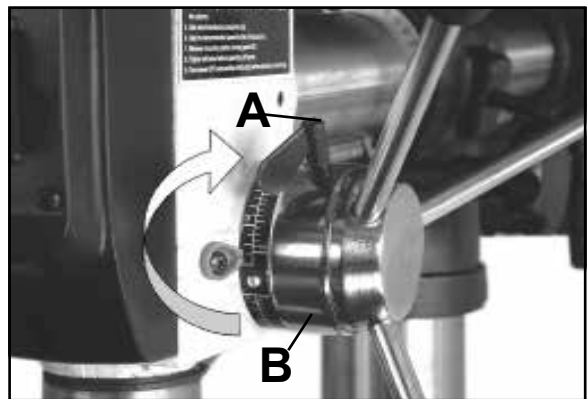

Figure 29
1. Loosen the depth stop collar lock (A-Fig.29) as shown.
3. Turn the depth stop collar clockwise until the collar stops (B-Fig.29).
1. With the spindle in the up position, loosen the depth stop collar lock (A-Fig.29) as shown.
2. Turn the depth stop collar clockwise until the pointer reads the desired drill depth on the scale (B-Fig.29).